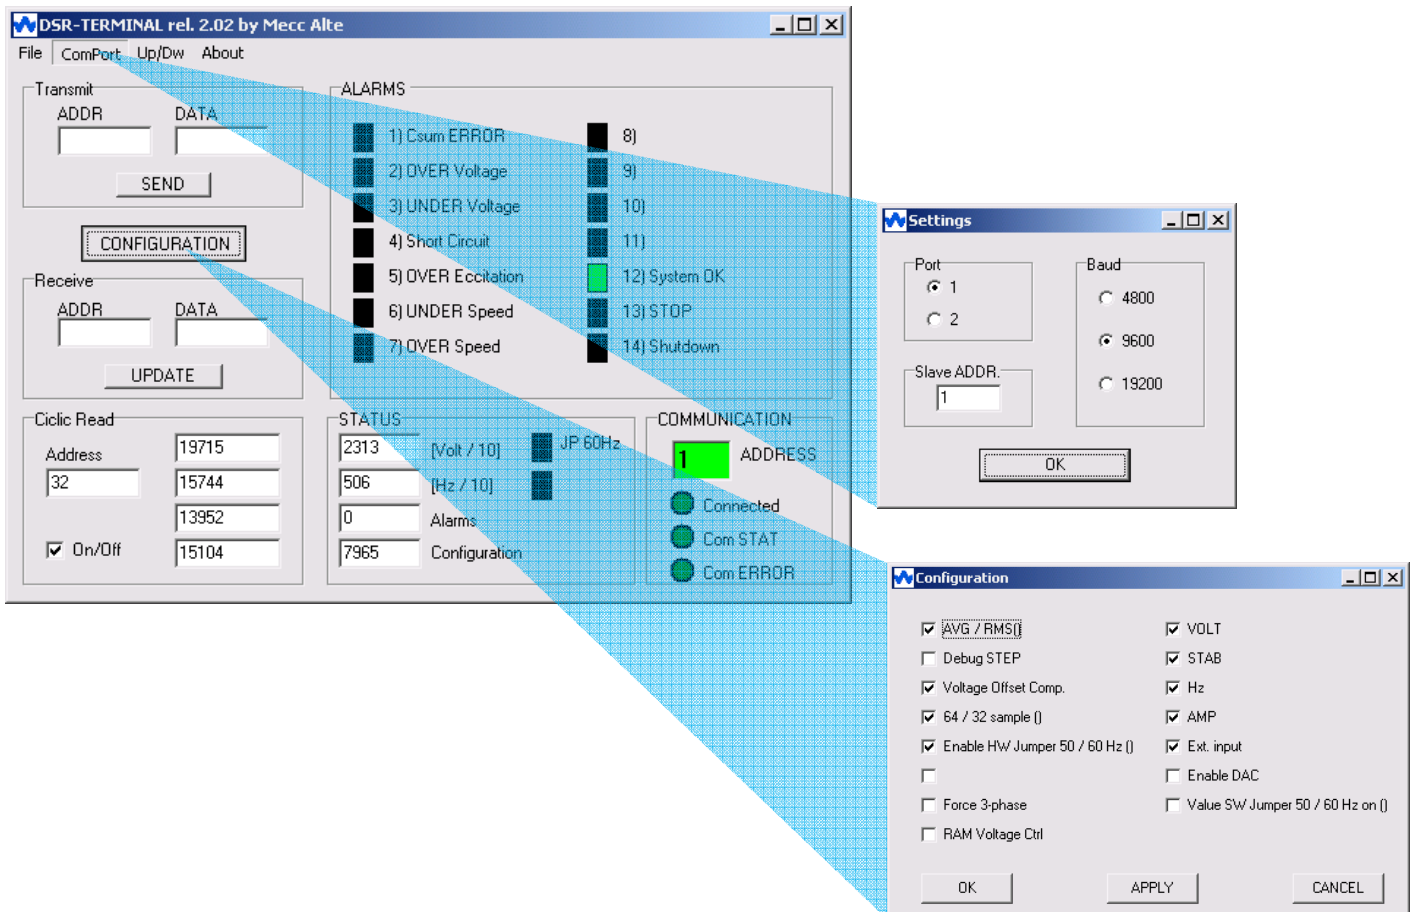

Fig. 13: DSR Terminal user Interface: Settings and Configuration Menu
Upon opening the user interface, the program is presented as indicated in the left part of figure 13.
2. **Settings** opens a window (as shown in figure 13), through which several parameters, concerning communications, can be set:
The **Configuration** Menu is indicated in figure 13; it permits setting of configuration flags of the DSR regulator (parameter 10).